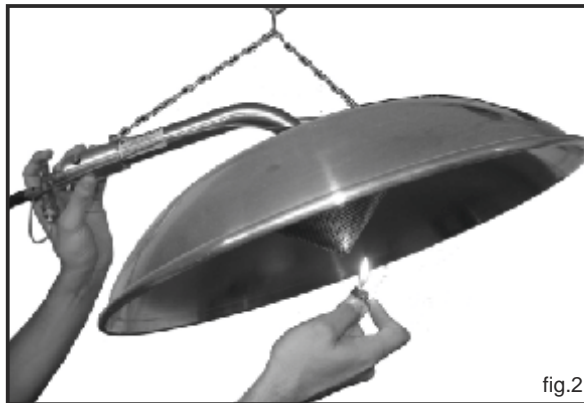

fig.2
5. Apply flame in the second burner (fig 2).